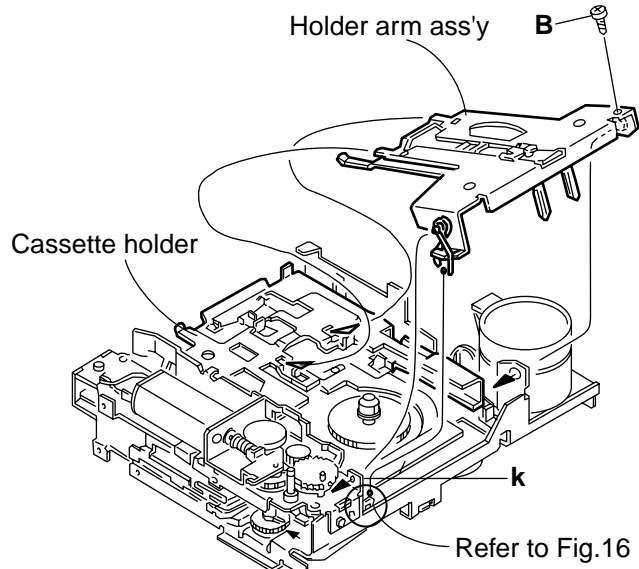

Fig.15
5. While attaching the holder arm ass'y to the cassette holder, insert the shaft of the holder arm ass'y into the interlocking section **k** of the sub chassis ass'y as shown in Fig.15.
7. After the holder arm ass'y is installed, secure it with the screw **B**. (see Fig.15)